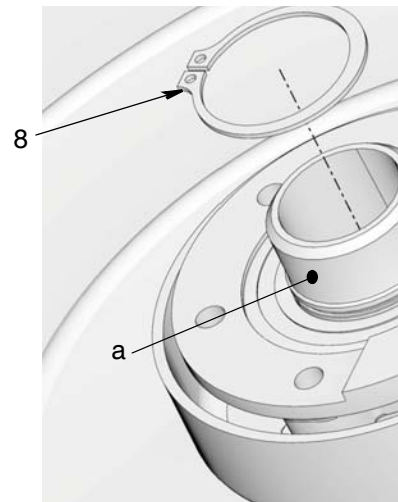

FIG. 24
- a. Use a snap ring pliers to remove snap ring (8) (FIG. 24).